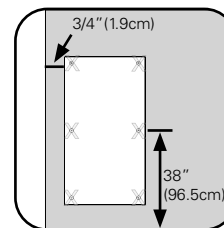

Figure 10
- 4.1 Placement of the Push Plate should cover any THROUGH holes. (Fig. 10)
- 4.2 Move Pürleve Door Push Plate approximately 3/4" (19mm) in from door edge (Fig. 10)
- 4.3 Use the Pürleve Door Push Plate as a template and mark the center of all six installation holes using a center punch, nail or screw tip. (Fig. 10)